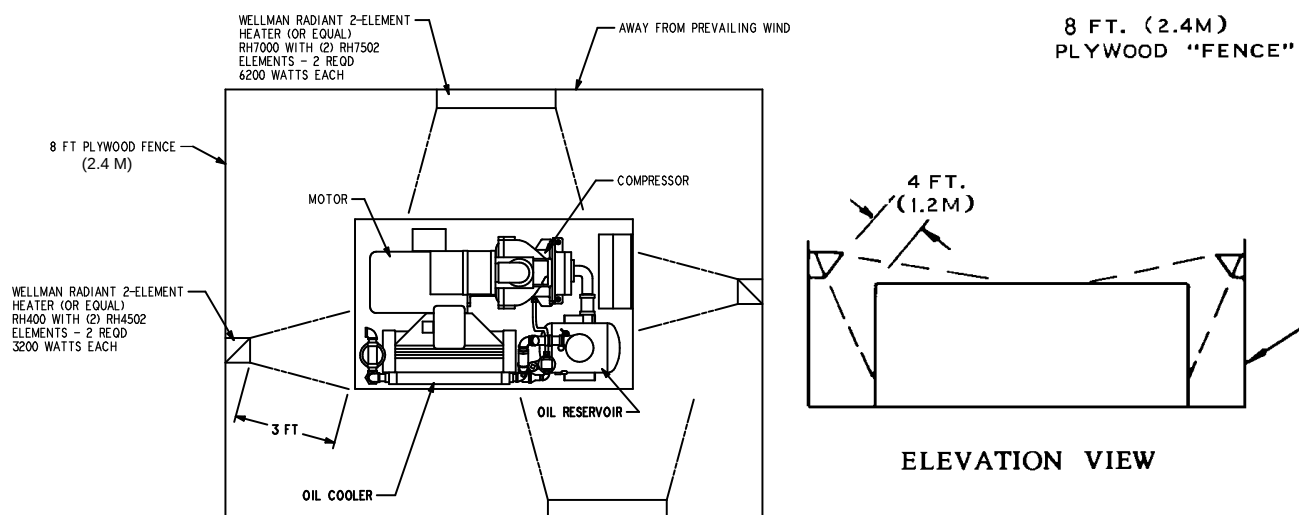

FIGURE 2-3 – COLD WEATHER INSTALLATION
INSTALLATION FOR COLD WEATHER OPERATION (FIGURE 2-3, page 10) – It is recommended that the unit be installed inside a shelter that will be heated to temperatures above freezing (32°F, 0°C). This will eliminate many of the problems associated with operating units in cold climates where freezing rain, drifting snow, freezing condensate and bitter cold temperatures are encountered.
3. Some means of providing heat during shutdown should be provided. There are various methods to accomplish this, but since openings are not provided for sump heaters, the use of radiant heaters is recommended. The heaters should be sized to provide at least a +10°F (-12°C) environment for coolers, motor and sump. FIGURE 2-3, page 10, shows how these might be located in a typical installation and sizes required.